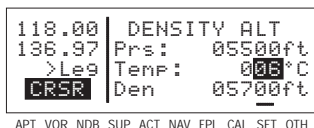

Figure 4-69
3. Use the right outer knob to move the cursor to the first **Temp:** field, and then use the right inner and outer knobs to enter the outside air temperature (degrees Celsius) (figure 4-69). The first digit of the temperature is either "0" if the temperature is above zero or "-" if the temperature is below zero. For maximum accuracy, the static air temperature should be entered. This is the temperature of air without the effect of heating due to the aircraft's movement through the air. For the airspeeds of most piston aircraft, the difference between static air temperature and the observed air temperature (or "total air temperature") is negligible. The density altitude (**Den**) is now displayed.